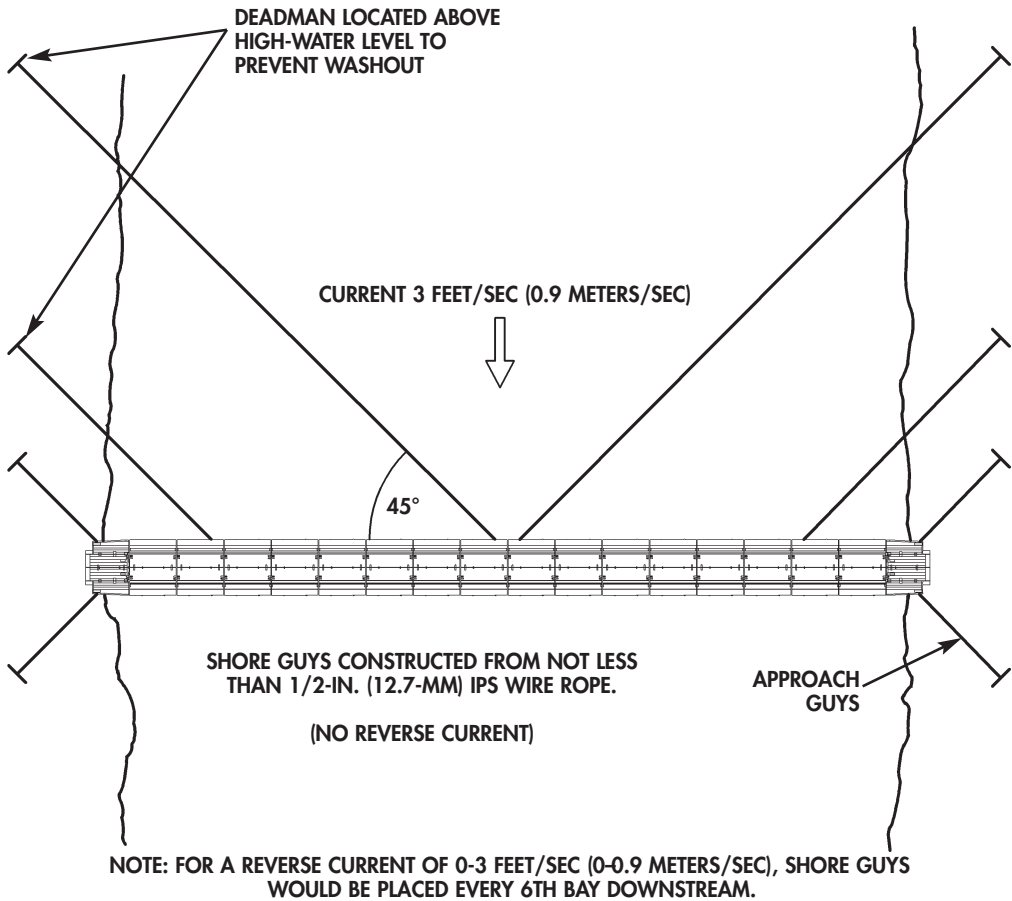

Figure 7. Typical Shore Guy System.
- (1) When shore guys are used as the upstream anchorage system for a bridge, they are emplaced as the bridge is constructed. (Refer to figure 7.) The cable should be unreeled from the shore and passed out along the bridge. If necessary, station one person at every other float to hold the cable out of the water. Connect guys to the IRB load receiving pins only.
- (2) Tighten the shore guys that were attached to the bridge during the bridge assembly just enough to hold them taut. After bridge completion, tighten the four approach guys simultaneously to prevent longitudinal movement. Then tighten the shore guys simultaneously to maintain bridge alignment. Shore guys must stay above the water to prevent whipping and accumulation of debris. If necessary, use an A-frame or some other means of intermediate support to raise the guys clear of the water.